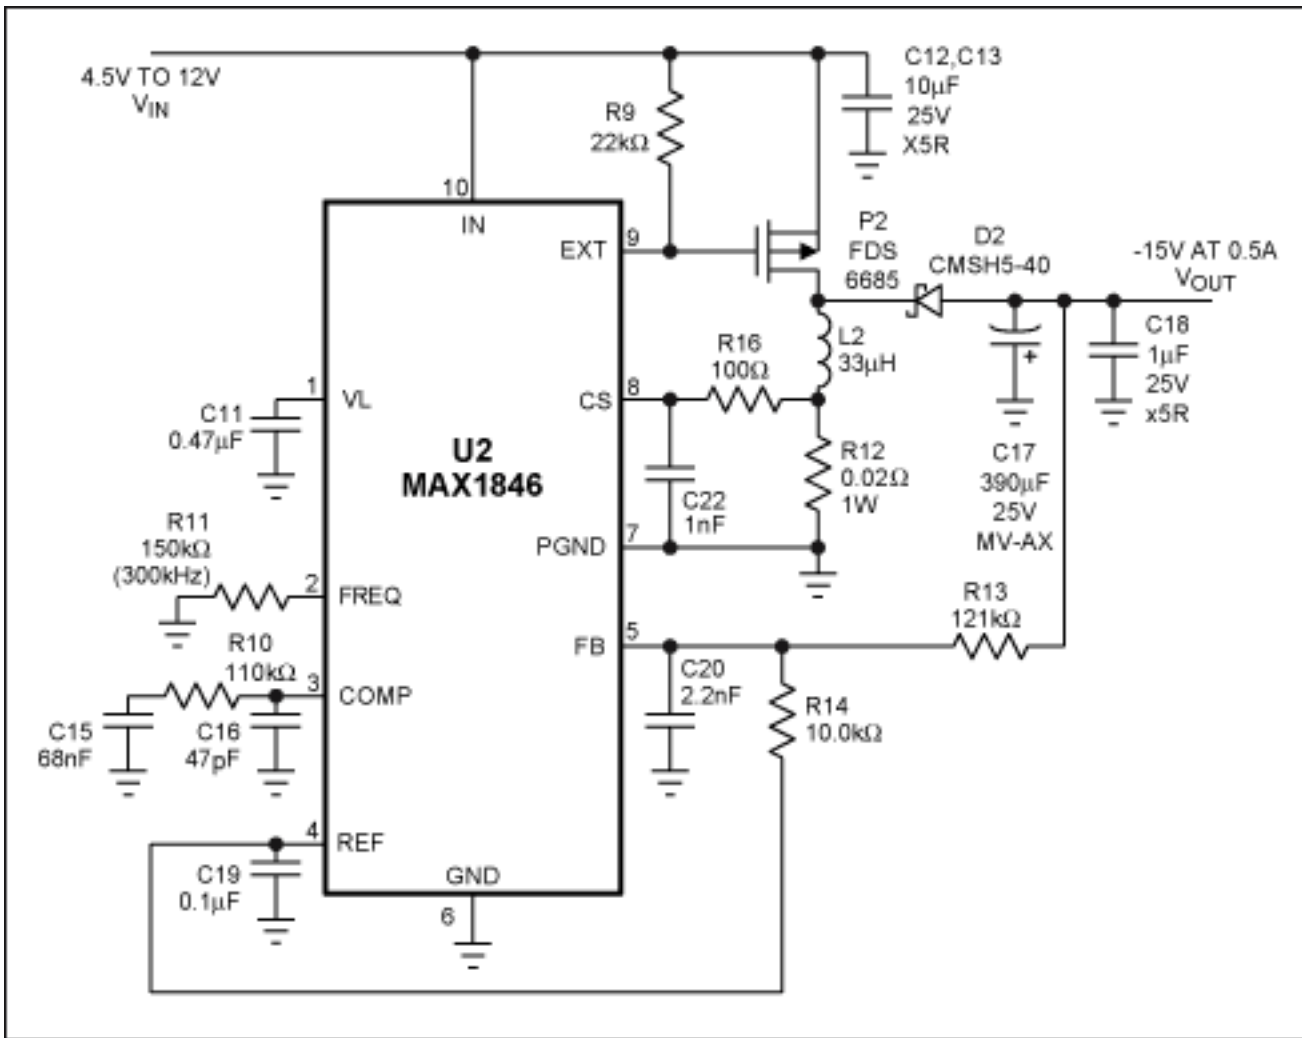

Figure 2. This diagram utilizes the MAX1846 inverting circuit to implement a -15V at 0.5A output from a 4.5V to 12V input.
**Figure 2** uses the MAX1846 inverting circuit to implement a switch-mode power supply that provides a -15V at 0.5A output from a 4.5V to 12V input. This MAX1846 circuit also adds a few components to the minimum circuit implementation. C20 adds a pole to compensate for the ESR-zero of the output capacitor, while R16 and C22 filter the current-sense voltage to prevent high-frequency switching noise from tripping the current limit. This functionality is in addition to the MAX1846's internal 100ns current-sense blanking time. The MAX1846 EXT pin implements controlled slew rate, which helps limit high-frequency switching noise.